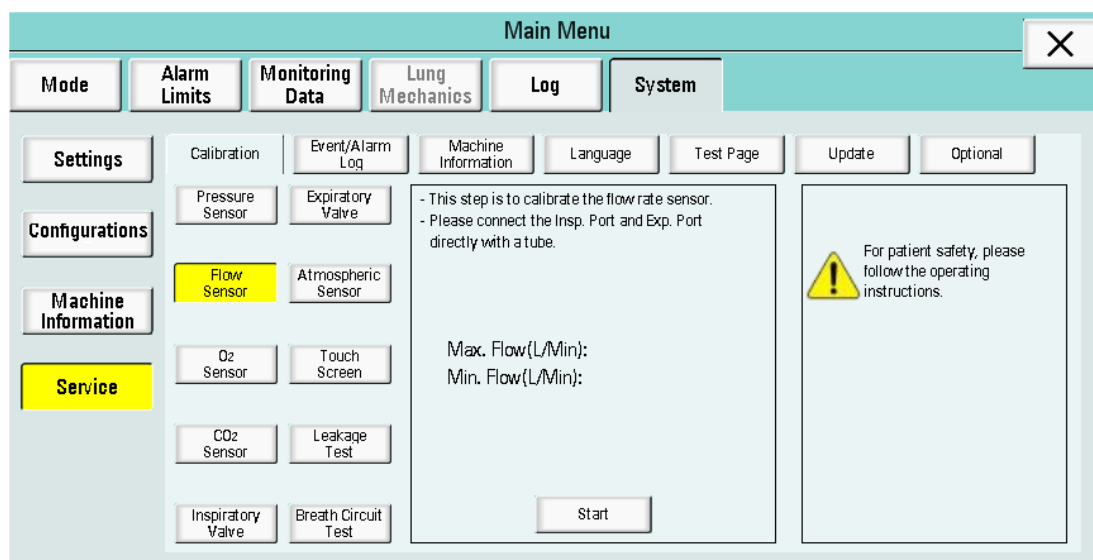

Figure 6-63
(2) Flow Sensor Calibration: Click “Flow Sensor” to enter the interface. A message is displayed: “This step is to calibrate the flow sensor. Please connect the insp. Port and Exp. Port directly with a tube” as shown in Figure 6-63.